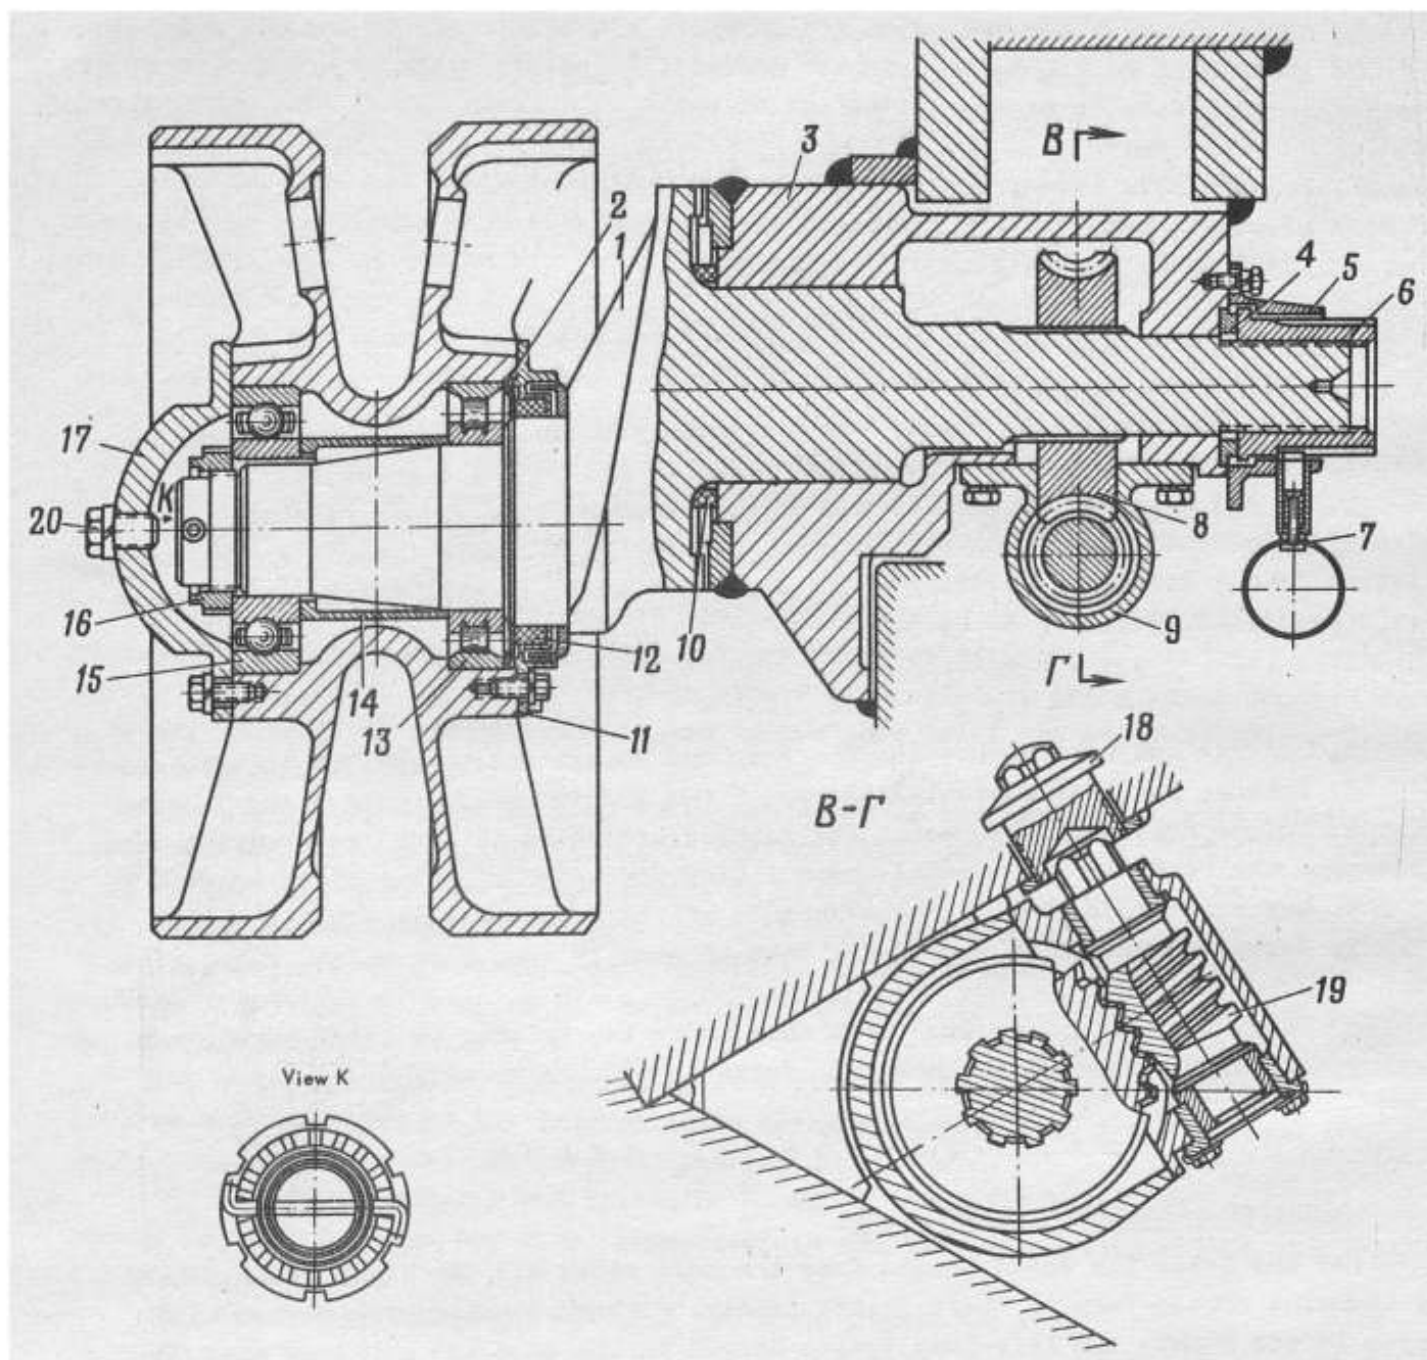

FIG.1. IDLER WHEEL AND TRACK ADJUSTING MECHANISM
3. Unlock nut 6 (Fig.1), mount the ratchet wrench on it, and, rotating the nut, disengage the teeth of idler wheel crank 1 from the teeth of idler wheel bracket 3.
8. Rotating worm 19 (Fig.1) of the track adjusting mechanism tension the track by wrench 34.28.215-1 (See Specifications, Item "b").
10. Lock nut 6 (Fig.1) with stop 7. Remove the wrench from worm 19 and screw in armour plug 18 into the hole of the hull front upper plate.
4. Unscrew the bolts fastening armour cap 17 (Fig.1) to the idler wheel hub. Remove the armour cap.
7. Unscrew the bolts fastening cover 11 (Fig.1) of the labyrinth seal. Remove the labyrinth seal cover, oil seal 12 and metal ring 2.
1. Mount cover 11 (Fig.1) of the labyrinth seal, oil seal 12 and metal ring 2 on the idler wheel axle.
5. Screw on nut 16 (Fig.1) and cotter it (See Specifications, Item "b").
2. Unscrew the bolts fastening body 5 (Fig.1) of the crank nut lock and remove the lock body.